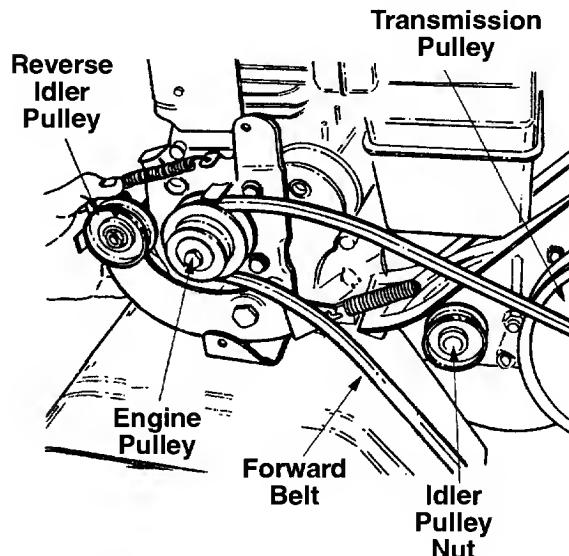

Figure 17. Model 390 Shown
4. Lift belt off the idler pulley and transmission pulley. See figure 17.
5. Using a 9/16" wrench, remove bolt from engine pulley. See figure 17.
6. Push reverse idler pulley bracket forward, and remove engine pulley and belt. See figure 17.